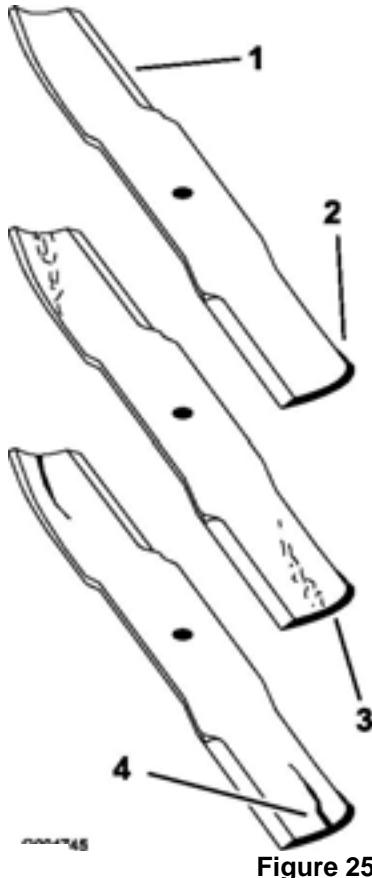

Figure 25
5. Inspect the cutting edges (**item 1 Figure 25**). If the edges are not sharp or have nicks, remove and sharpen the blades.
6. Inspect the blades, especially the curved area (**Figure 25**). If you notice any cracks, wear, or a slot forming in this area (**item 3 & 4 Figure 25**), discard and immediately install a new blade.